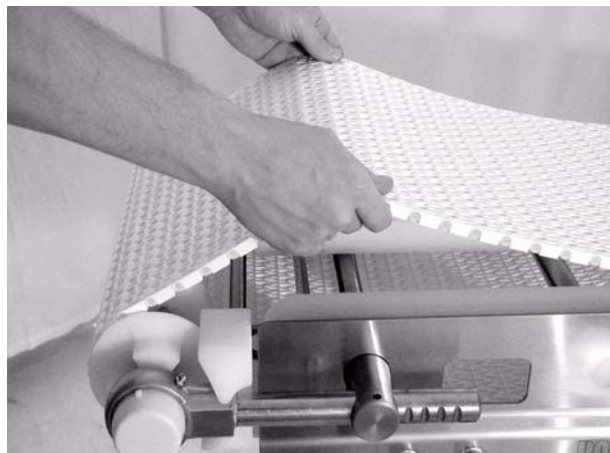

Figure 47
3. Lift up on the belt (**Figure 47**).